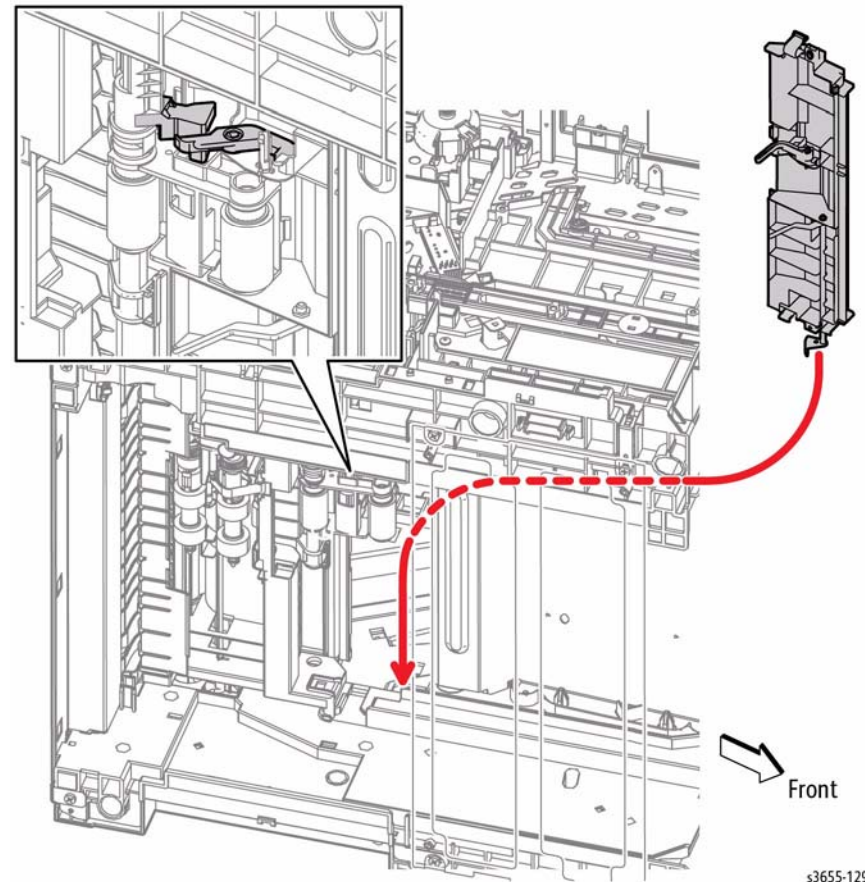

**Figure 6 Engage the Shaft with the Clutch**
2. Refer to Figure 6 to locate and fit the D-shaped shaft of the Exit Invert Drive Assembly into the D-shaped hole of the exit clutch.